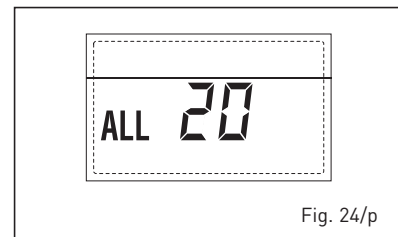

Fig. 24/p
- DELIVERY PROBE BREAKDOWN ANOMALY FIRST MIXED ZONE "ALL 21" (fig. 24/q)